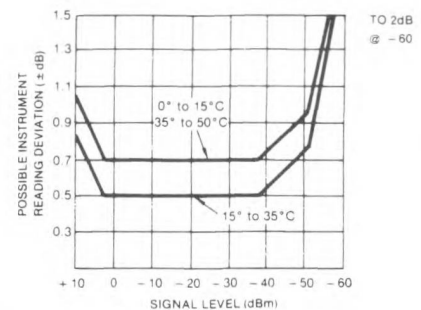

Figure 2. Models 1038-N10 and System Waveguide Detector Accuracy from 26.5 GHz to 40 GHz.
- Detector accuracy is shown in figure 2.